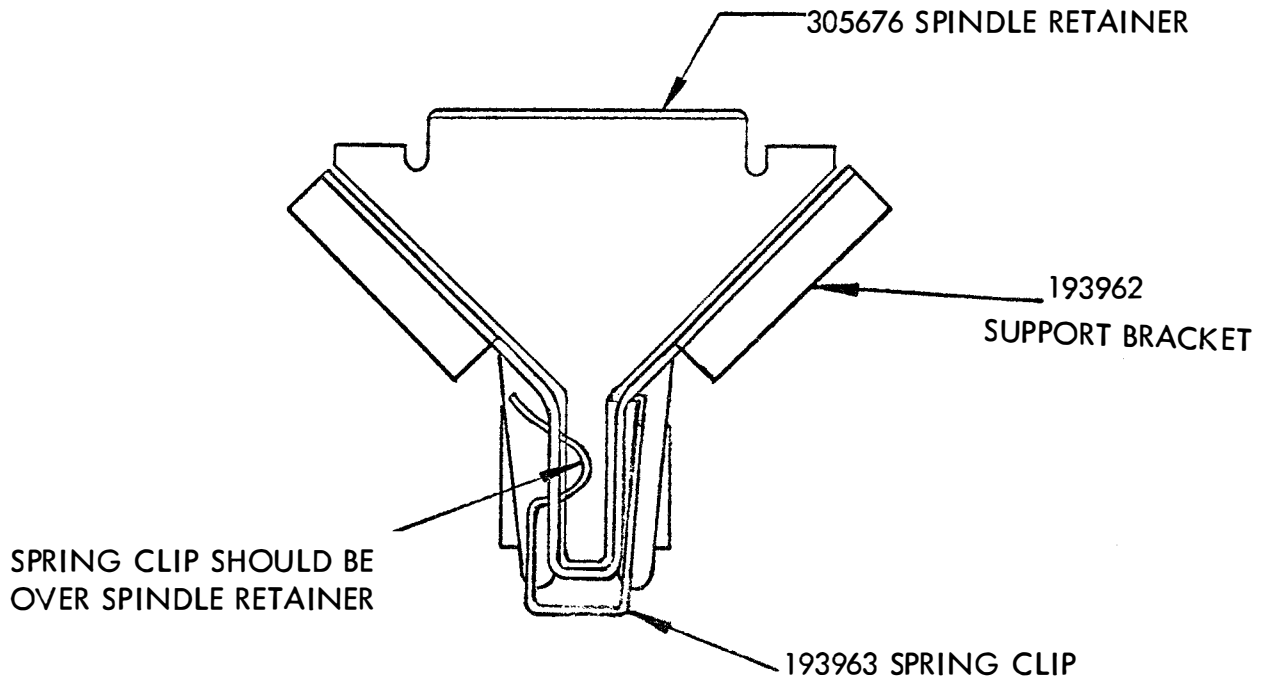

FIGURE 2
- 2.07 Mount the 305676 spindle retainer in the support bracket (Figure 2).